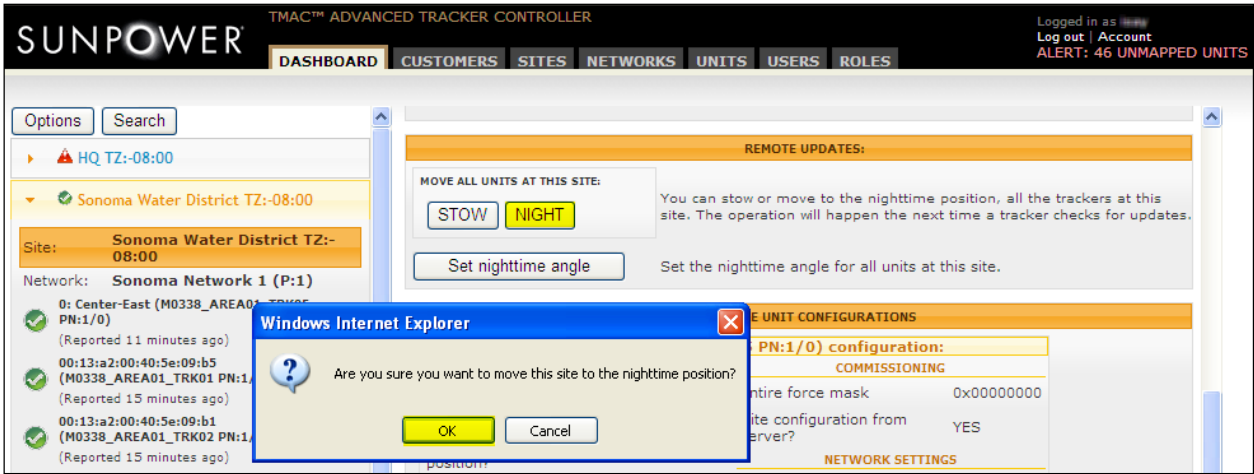

Fig. B48
- b. Click *OK* in the confirmation window (Fig. B48).